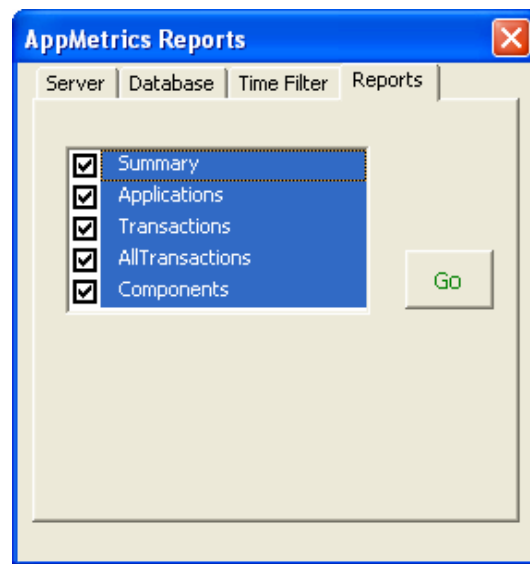

Figure 4
7. Click on the **Reports** tab, and select the specific report components you wish to see generated (see Figure 4).